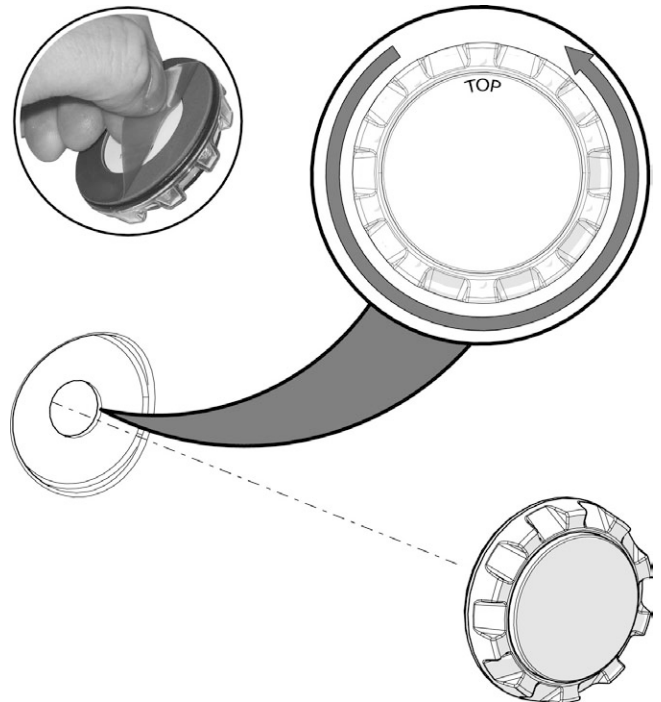

Figure 168. Remove the protective tape and rotate the indicator until the text "TOP" is pointing straight upwards.
2. Rotate the indicator until the text "TOP" is pointing straight upwards and position the indicator on the drive package cover. Press it against the cover until the double sided tape sticks on to the cover. See fig. 168.
2. Rotate the light/indicator until the text "TOP" is pointing straight upwards and position the indicator on the drive package cover. Press it against the cover until the double sided tape sticks on to the cover. See fig. 168.